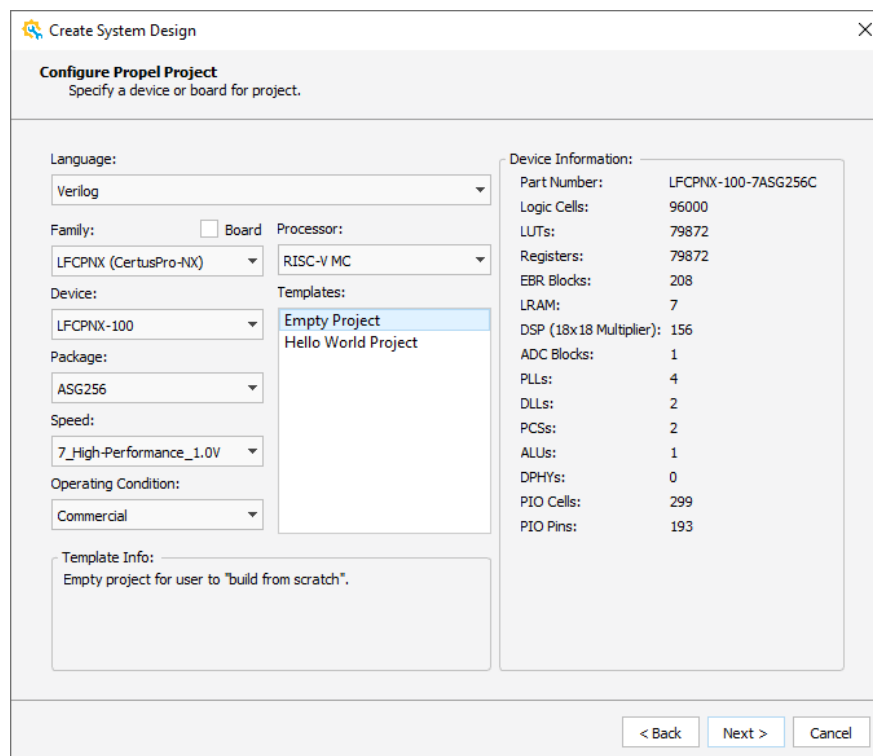

Figure 2.10. Specify a Device for Template SoC Project (1)
6. From the Configure Propel Project wizard, you can specify a device or a board for a Template SoC project (Figure 2.10).